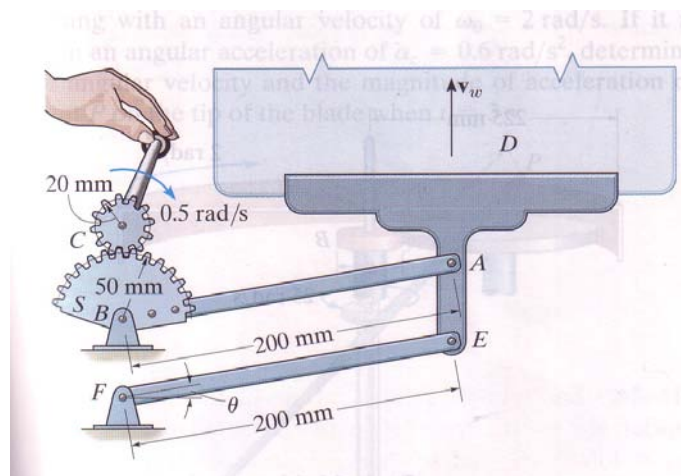

Figure Q4[a]
- Q4. [a]** The mechanism for a car window winder is shown in Figure Q4[a]. Here the handle turns the small cog C, which rotates the spur gear S, thereby rotating the fixed-connected level AB which raises track D in which the window rests. The window is free to slide on the track. If the window is wound at 0.5 rad/s, determine the speed of points A and E and the speed V_w of the window at the instant $\theta = 30^\circ$.